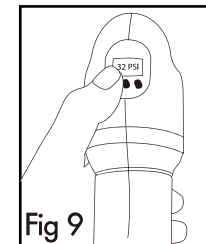

Fig 9
4. (See Fig 9). *NOTE: After 30 seconds of inactivity, the digital tyre gauge will turn off automatically to conserve energy.*